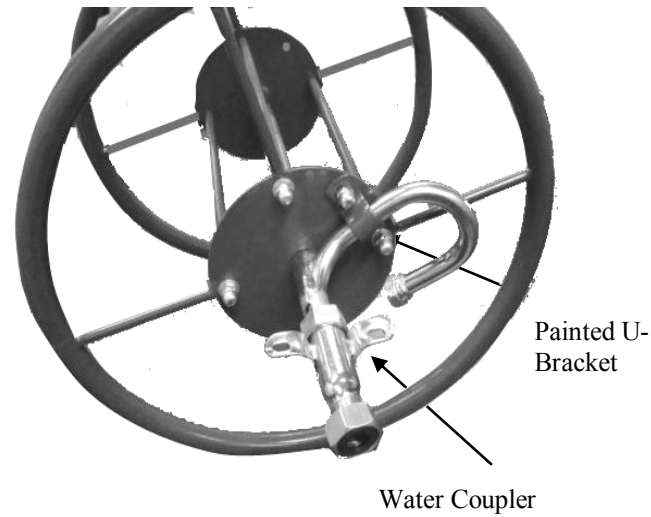

Figure 3B
Attach Water Coupler Tube to the Center Hub using the Painted Water Coupler U-Bracket and (1) M8 U-Bracket Bolt Set. See Figure 3B